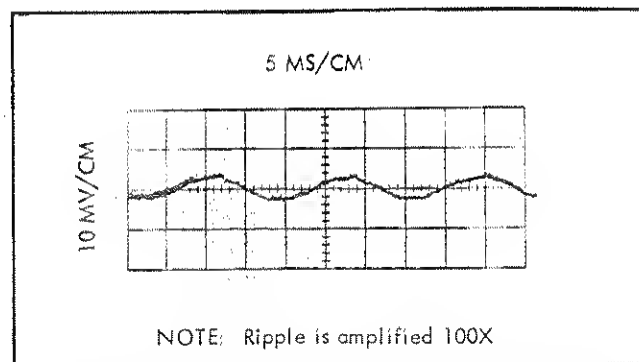

Figure 4-5. RIPPLE ON HIGH VOLTAGE DC OUTPUT
- c. Set the POWER and HIGH VOLTAGE switches to ON and observe the ripple. The ripple should be less than 1.0 millivolt peak-to-peak (see Figure 4-5). (Oscilloscope display should indicate less than 100 millivolts peak-to-peak, and are typically 20 to 40 millivolts peak-to-peak).